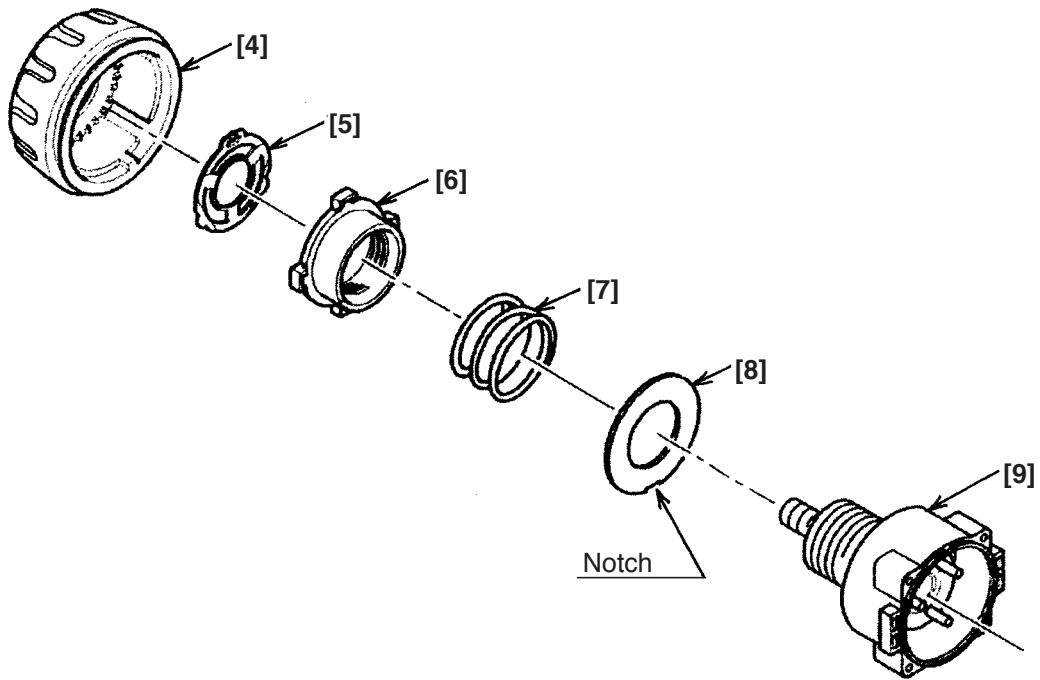

Fig. 5
(2) Reassembly of the clutch unit
(a) Mount Washer (D) [8] and the Spring [7] to the Front Case [9]. (See Fig. 5.)